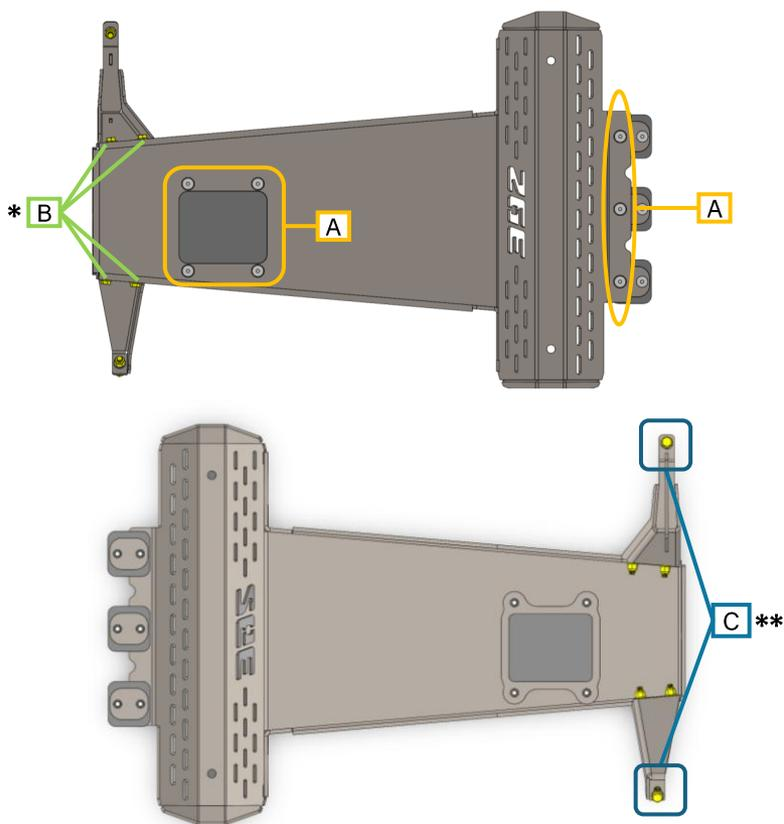

Figure 11: bolt callouts on engine skid plate
10. Proceed with Table 1 while referencing Figure 11. Tighten the engine skid plate hardware to the following specification. **Pay attention to the \* notes at the bottom of the page.**